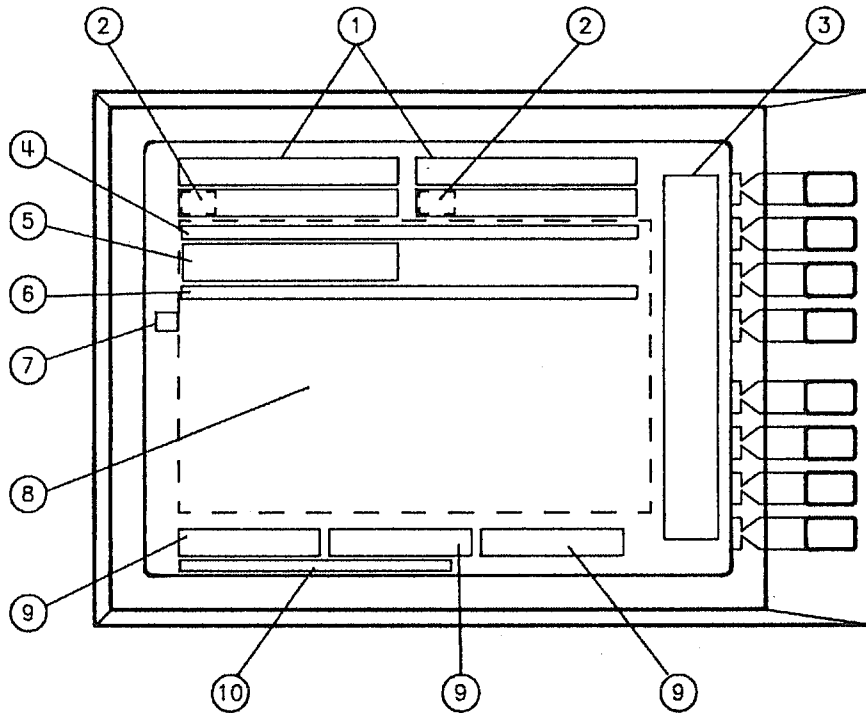

Figure 2. The Analyzer CRT
- Figure 2 is the CRT. It identifies each of the information areas on the CRT.
1. CRT: This screen shows measurement annotation, soft key labels, data traces, and other information. See figure 2 for CRT details.
The analyzer CRT is divided into several information areas. See figure 2.